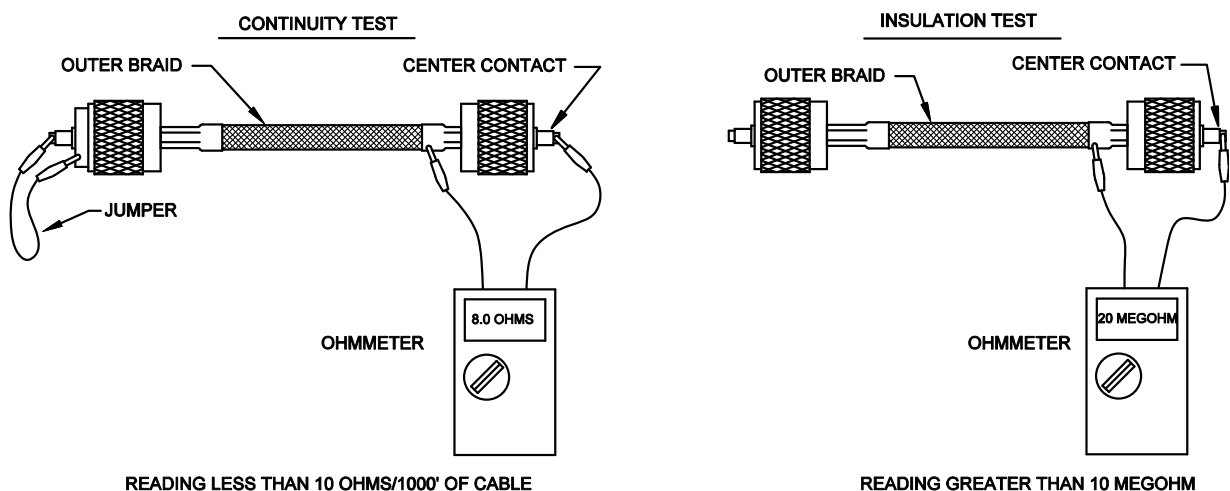

Figure 8-1
The following tests should be performed on each length of cable after both connectors are installed. Figure 8-1 illustrates the tests. Any overbraid or outer jacket is not shown.
1. Connect a short jumper wire with alligator clips between the UHF connector's center contact and the body of the connector at one end of the cable, as shown in figure 8-1. **Note: Do not clip onto the threaded coupling ring because the ring is not tightly secured, resulting in intermittent readings.**
1. Remove the jumper wire used in the continuity test, as shown in figure 8-1 and connect one ohmmeter test lead to the connector's center contact and the other lead to the connector body.